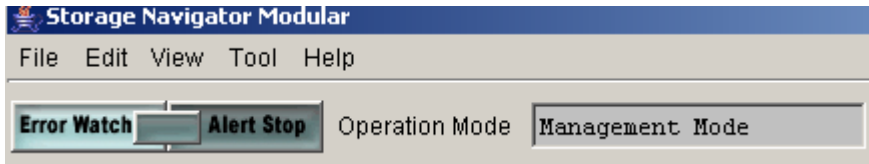

Figure 4.7 Management Mode
3. **Management Mode** will display on the window (see Figure 4.7).